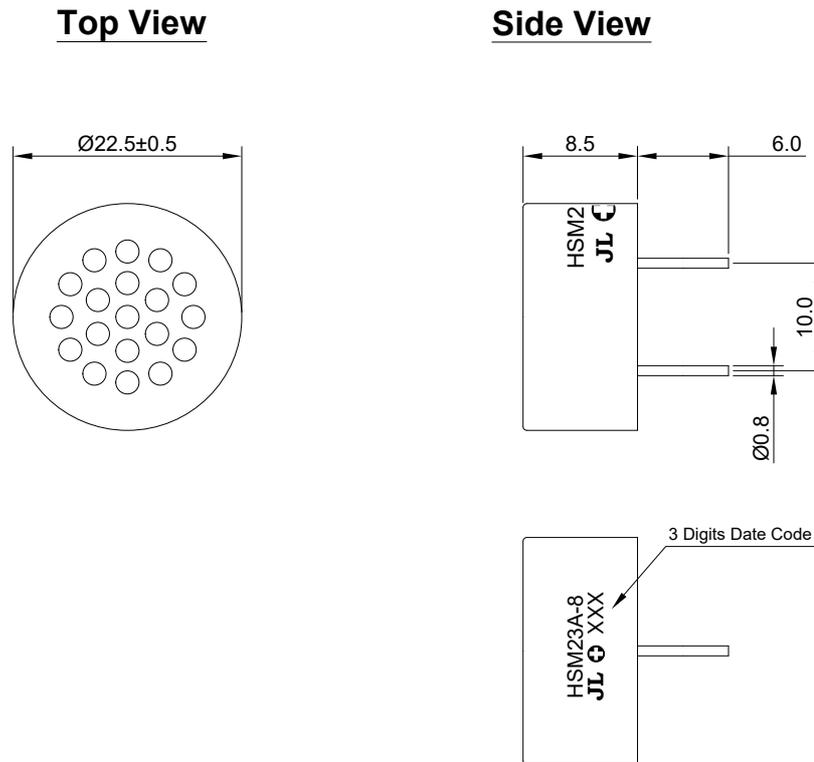

Figure 3. HSM23A-8 Mechanical Layout
- 4.3.1.** Layout and Dimension : See Section 6, Figure 3